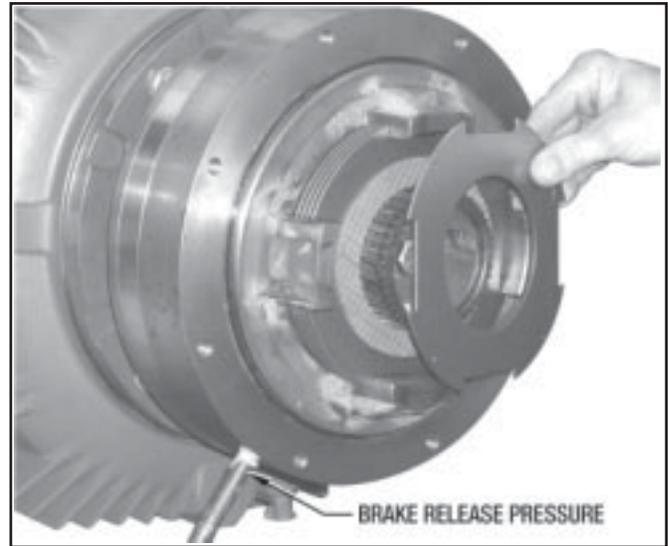

Figure 3.7
2. While air pressure is being applied, install Drive Plates (#12) and Friction Discs (#13) as determined by the Torque Assembly Configurations Chart (**Table 3.1**) above and as shown in *Figure 3.7*.